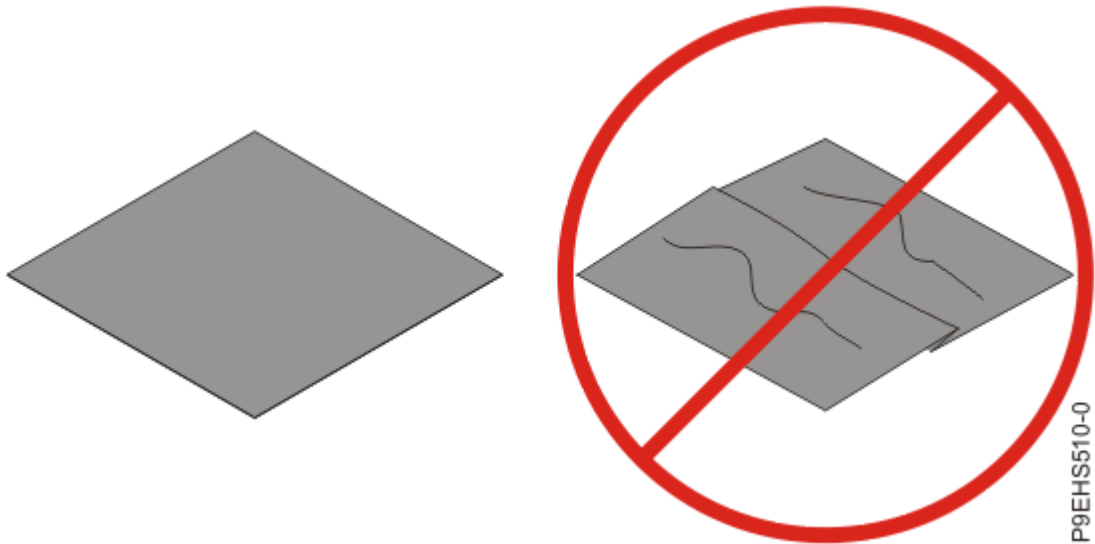

Figure 156. Inspecting the thermal interface material
6. Inspect the thermal interface material (TIM) for visible signs of damage, as shown in Figure 156 on page 171. If you see folds, tears, bends, or if you have doubts about the TIM, replace it.